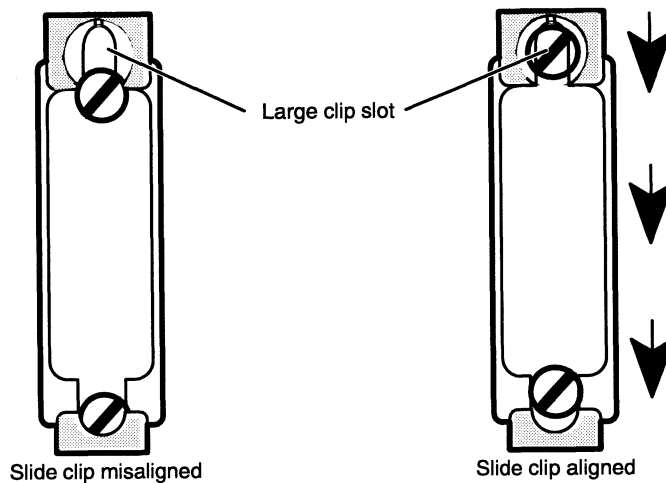

Figure 4-22 LAN Connector Slide Clip Before Connection
2. Align the larger mount slot on the clip with the screw behind it as shown in Figure 4-22. This position allows the cable connector to fit completely over the VTC connector before you secure the connection.